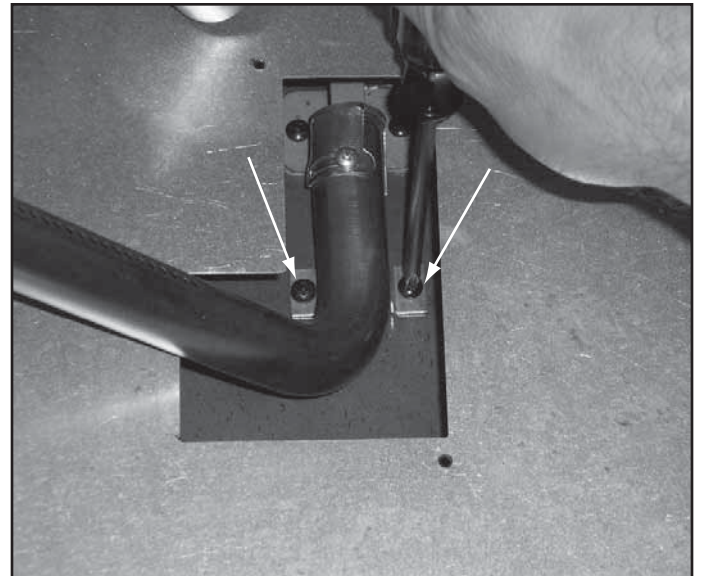

Figure 3.9 Remove Outside Burner Tubes
- Remove three outside burner tubes by removing two screws on each tube. See Figure 3.9.